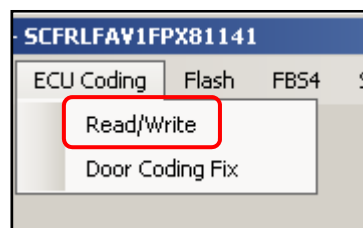

Figure 3
3. Select "Read/Write" from the "ECU Coding" drop down list (refer to Figure 3)